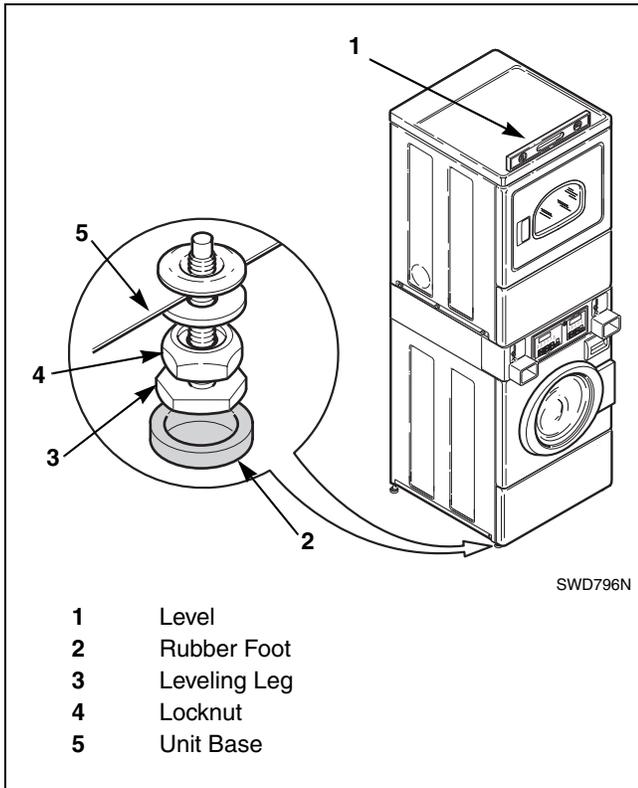

Figure 24
**NOTE: Level must rest on raised portion of top panel. Refer to *Figure 24*.**
Place rubber feet (supplied in accessories bag) on all four leveling legs. Refer to *Figure 24*.